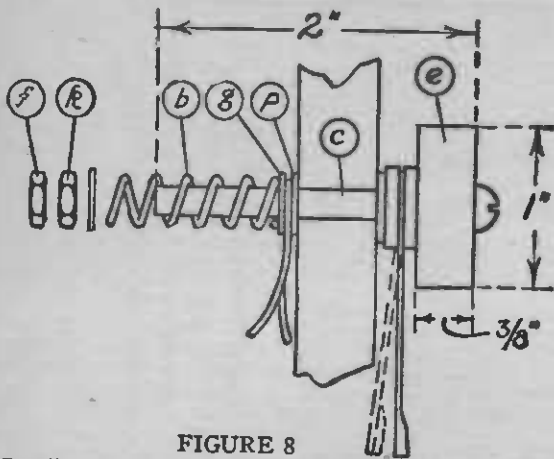
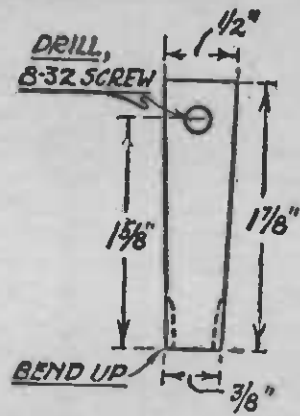

FIGURE 8
FIGURE 8A
E. TAP SWITCHES (Figure 8). A completed tap switch is shown in Figure 8. Two switch blades are cut from No. 24 spring brass sheet, as shown in Figure 8a, with the grain of the metal running the long way. The end widths of switch blades are important and the edges of the blades must be bent up as shown, for smooth operation. Two knobs are cut from a fiber rod as shown at e, Figure 8. Two springs, as shown at b, Figure 8, are formed by wrapping 10 turns of No. 20 piano wire around a 3/16-inch rod clamped in a vise. The switch
is assembled upon an 8-32 brass machine screw *c*, shown in Figure 8.